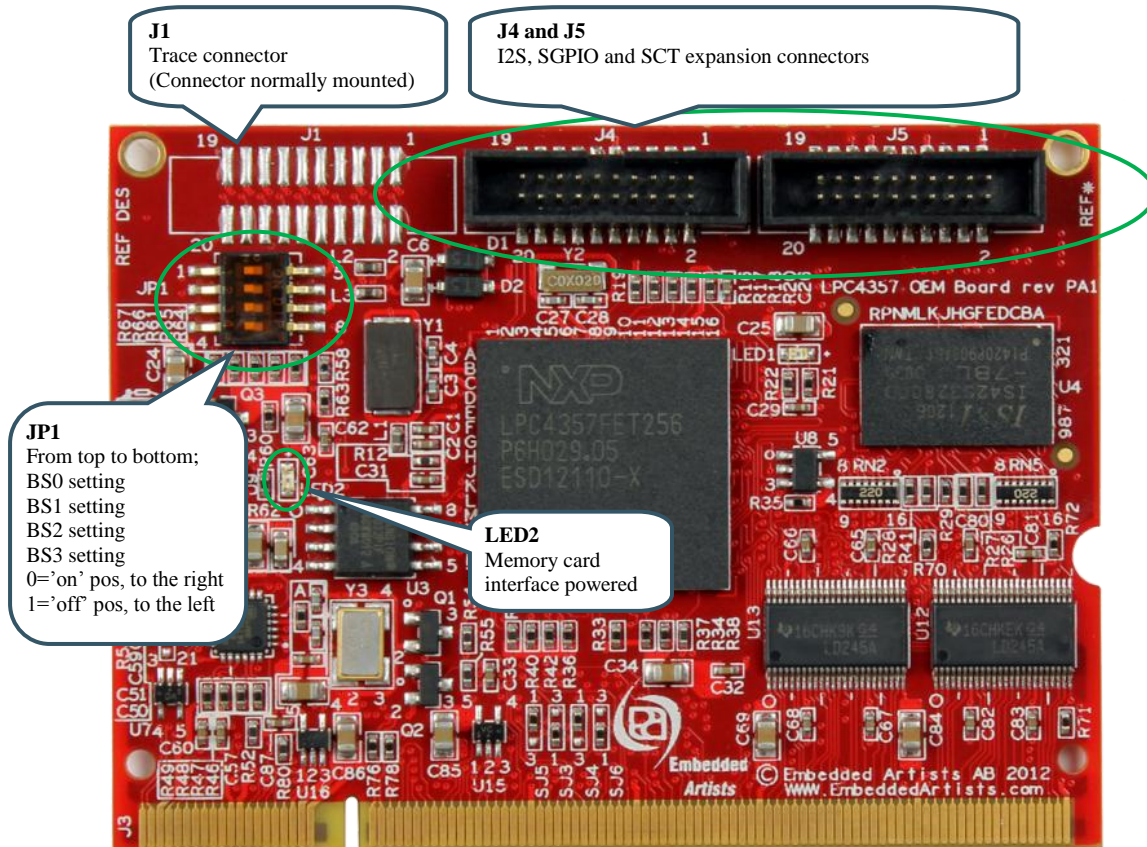
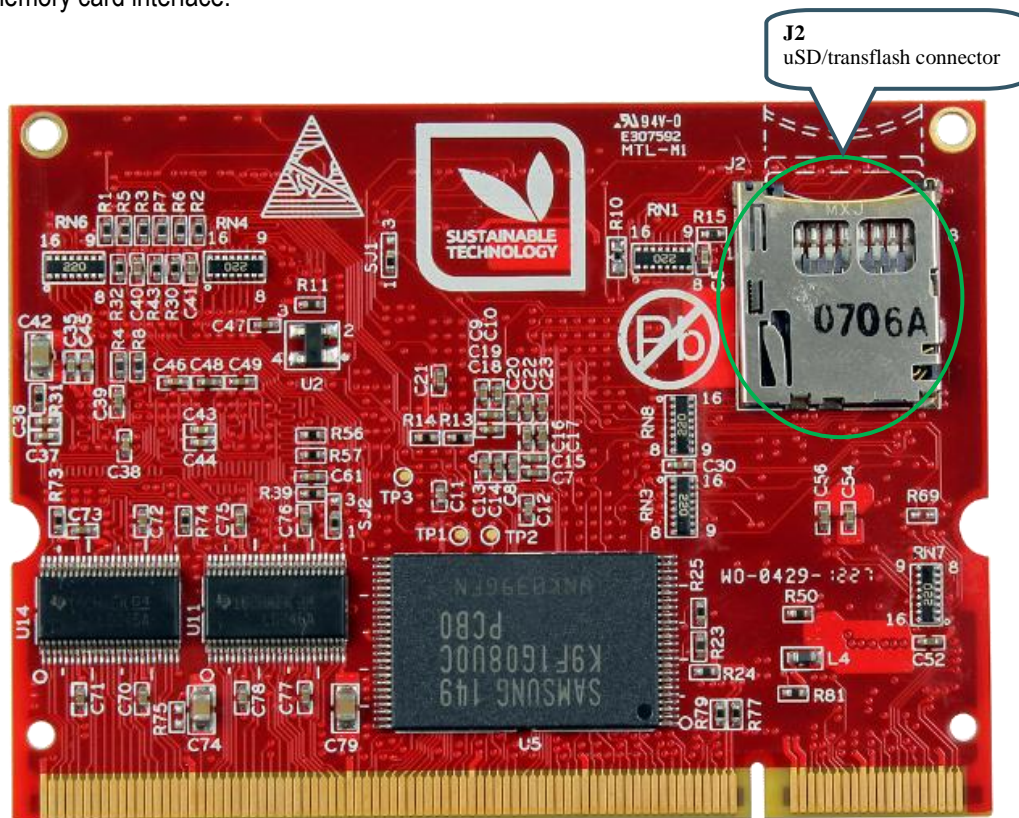

Figure 1 – LPC4357 OEM Board Picture, top side
Figure 2 – LPC4357 OEM Board Picture, bottom side
There is a connector on the top side of the LPC4357 OEM board, carrying all signals needed for debugging with trace. It is a standard 20 pos (50 mil pitch) trace connector as defined by ARM. Figure 1 illustrates where J1 is located on the board.
There are two 20-pos, 50 mil pitch connectors on the top side of the LPC4357 OEM board. See Figure 1 for location. These connectors carry selected I2S, I2C, SGPIO and SCT signals and can be used to connect these signals to a separate expansion boards. For example an audio and video expansion board. Note that some of the signals can be used on the OEM base board. Before using the signals, always check for possible contentions.
There is a uSD/transflash memory card interface connector, J2, on the bottom side of the board. See Figure 2. LED2, on the top side, lights when the interface is powered. See Figure 1 to locate LED2.